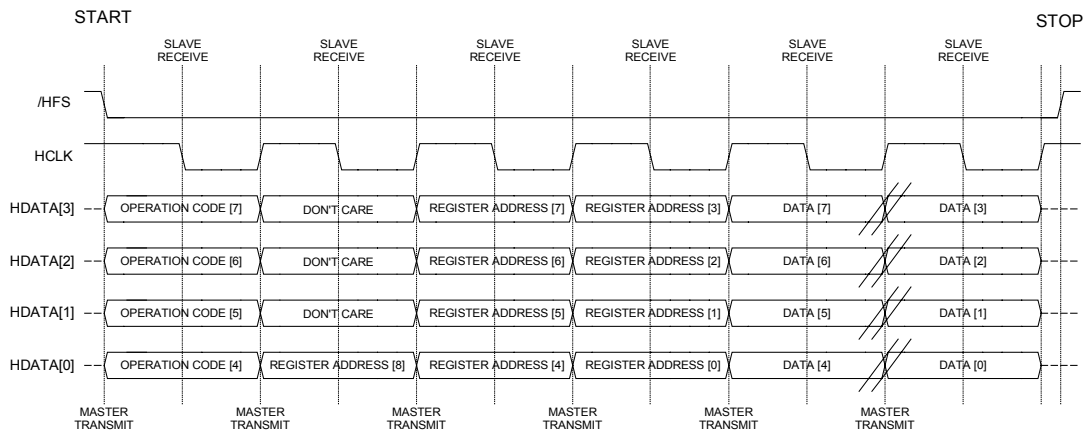

Figure 30. 6-Wire Write Operations (0x1x & 0x2x)
- The HFSn signal is used for direct addressing, therefore no device address byte is sent. The first byte instead contains the instruction byte indicating the type of operation to be performed. Figure 30 shows an equivalent Write Address Increment operation. ('Increment' Write implies that the register address is incremented after each data byte is read or written, allowing the user to program a block of sequential addresses, stating only a single starting address.)